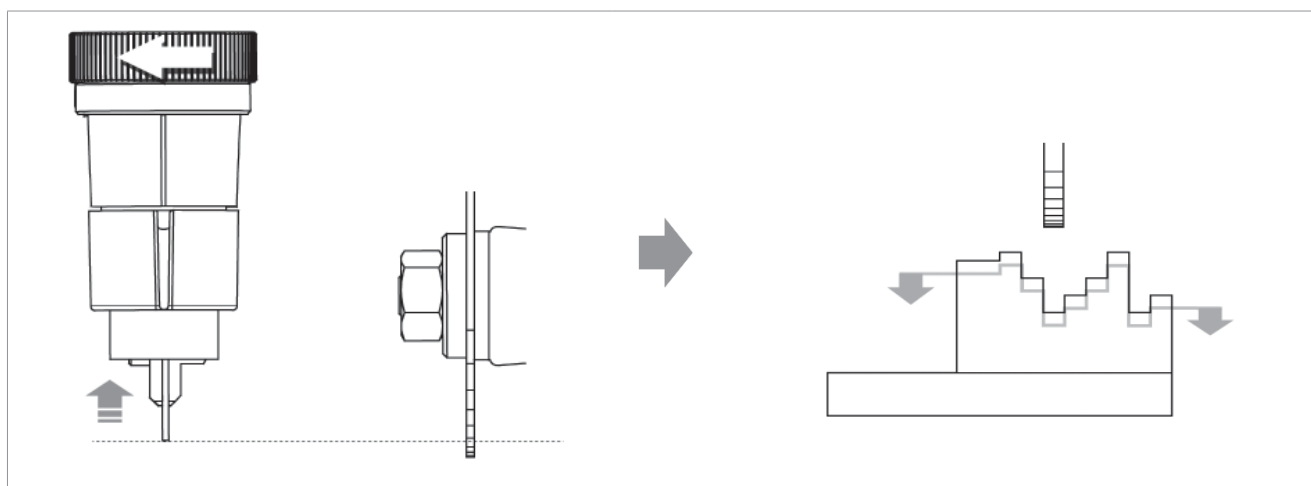

Fig.41
- turn the ring nut (D2) anticlockwise to move the tracer point back (deeper cut) (Fig.41).